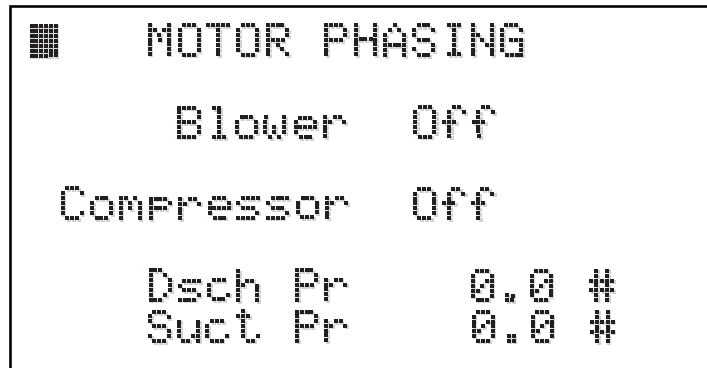

Figure 38
4.3.4.1.8 Motor Phasing (Figure 38)
Selecting the MOTOR PHASING from the Commissioning Menu displays the MOTOR PHASING screen (Figure 38). Turning the Blower 'On' will run the blower for 1 second to allow for the motor rotation to be checked. This is required for units connected to 3 phase electrical power. Turning the Compressor 'On' will run the compressor for 3 seconds. The discharge and suction pressure are shown on this screen for a check of current compressor rotation.